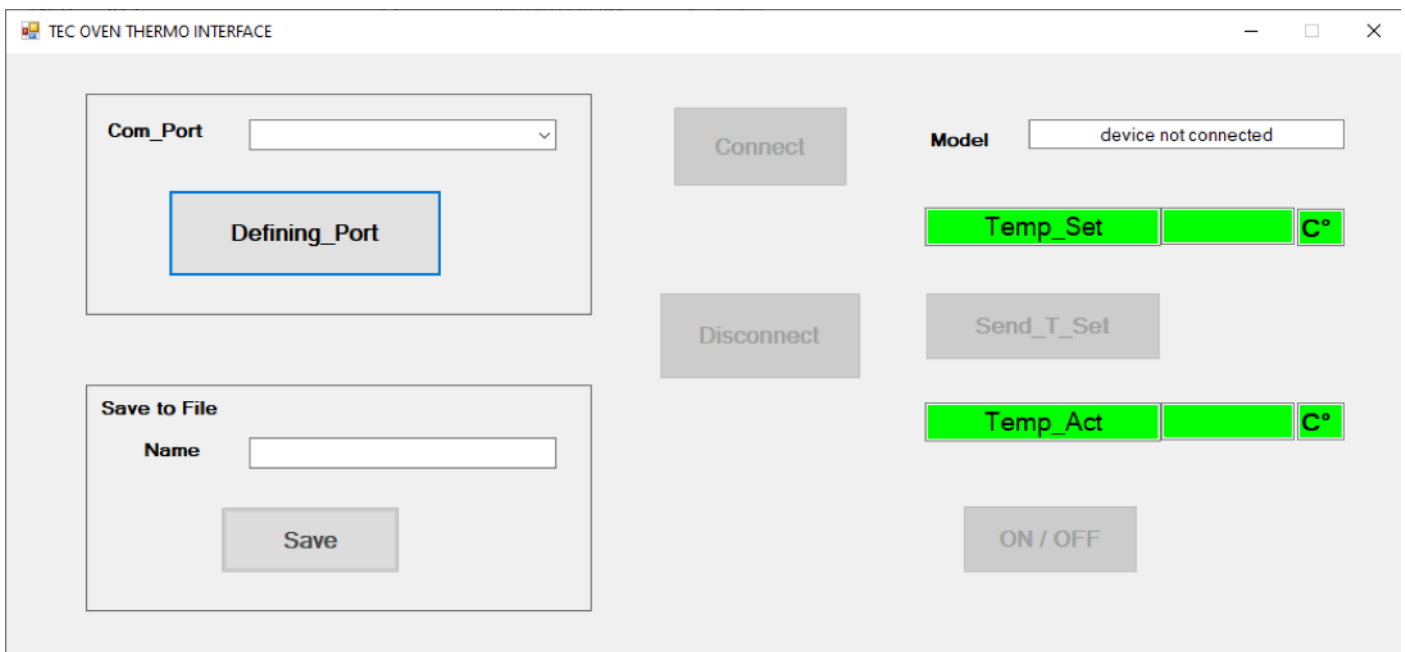

FIGURE 4. User Interface Software
- Double click on **TEC OVEN INTERFACE** open user software communication (figure 4)
- You must press OK button in this message, while the message **'Missing port'** appears in the **Com_Port** window, and the **Model, Temp_Set, Temp_Act** windows are cleared. (See figure 4)